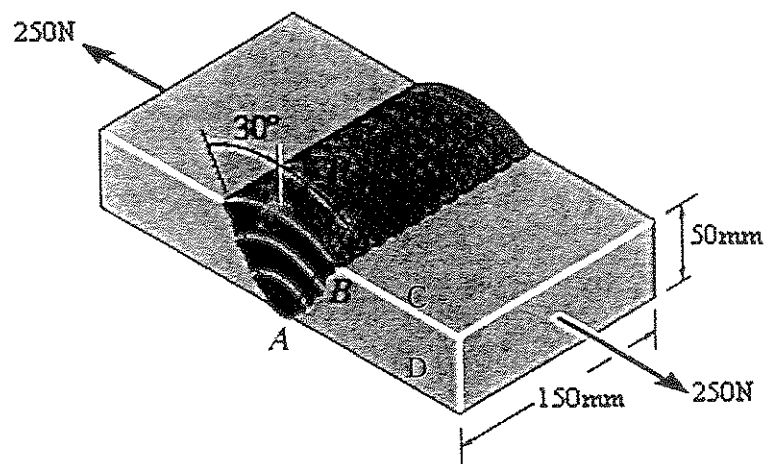

Figure 1: Open Square Butt Joint
- (a) One method of specifying the allowable load P for the design is the use the Factor of Safety (F.S.). In your own words describe the factor of safety and **give three (3) reasons** why F.S. is introduced. (6 marks)
- (c) Figure 1 shows an open square butt joint that is used to transmit a force of 250N from one plate to another. Determine the following: